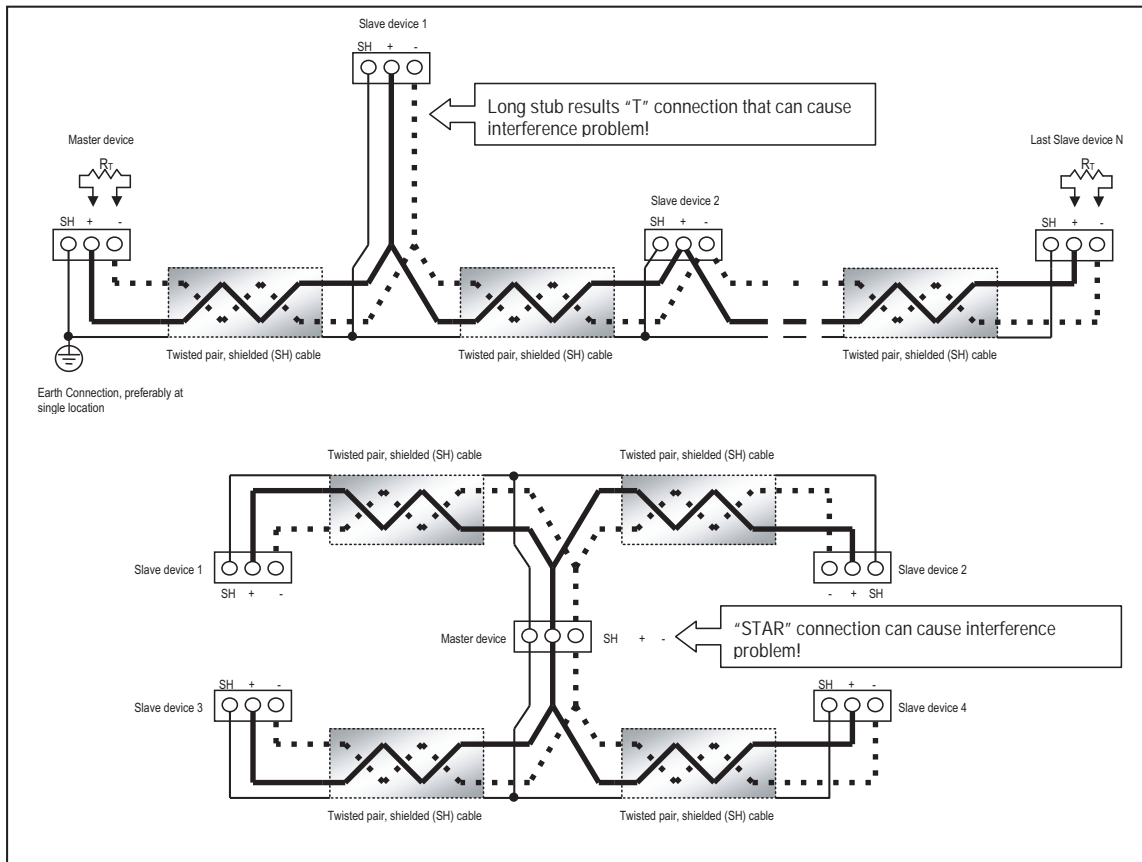

Figure 4.5: Incorrect “T” and “Star” Topologies
- Avoid both “star” and “tee” connections (see Figure 4.5). No more than two cables should be connected at any one point on an RS485 network, whether the connections are for devices, converters or terminal strips.